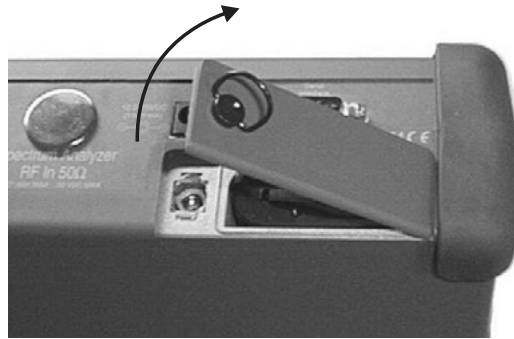

Figure 4. Removing the Battery Access Door
3. Lift the door and remove, as illustrated in Figure 4.